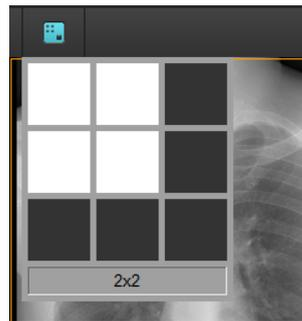

Figure 10.4 Image Layout
- ① Image Layout: Change image layout. When you click on the Image Layout button, a 3x3 grid shown in Figure 10.4 will appear on the screen. Select your desired layout. The largest image layout available 3x3.